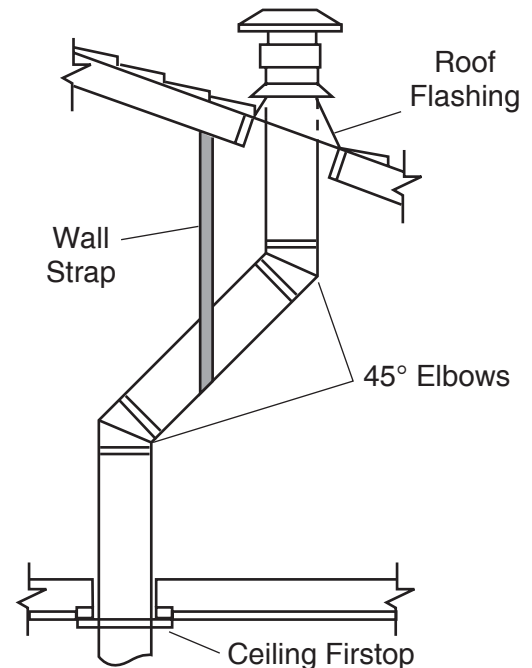

Figure 33 - Offset with Wall Strap and 45° Elbows
1. Determine the route your vertical venting will take. If ceiling joist, roof rafters or other framing will obstruct the venting system, consider an offset. See Figure 33 to avoid cutting load bearing members.
NOTE: If an offset is needed to avoid obstructions, you must support the vent pipe every three (3) feet. Use wall straps for this purpose. See Figure 33, page 26. Whenever possible, use 45° elbows instead of 90° elbows. The 45° elbow offers less restriction to the flow of the flue gases and intake air.